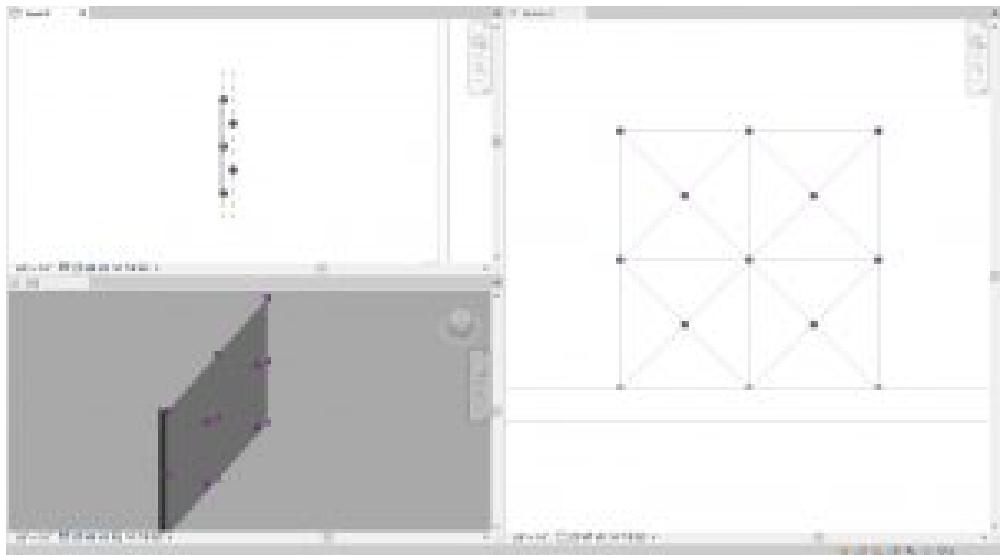

Figure 7.9 (top left) shows point elements on Ref1 and Ref2 and (right) shows points in Section 2 view
16. Draw a second line 6" from the first and change the name to Ref 2 (See Figure 7.9)
21. Place an element point at the corners of each square as shown in Figure 7.9
23. Place an element point at the center intersection of each square as shown in Figure 7.9